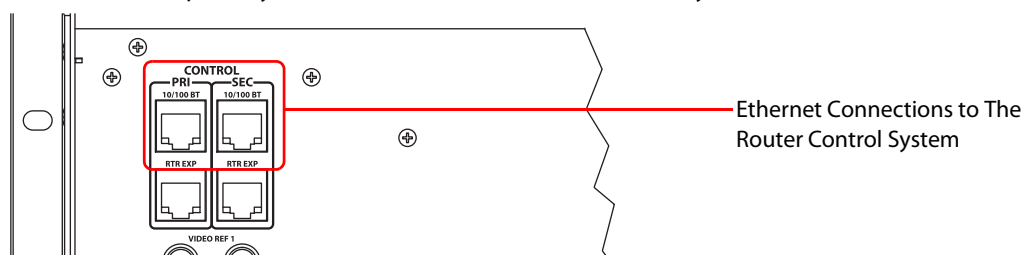

Fig. 4-5: Ethernet connections to the router control system (Rear View)
- 1 Face the rear of the router frame. The Ethernet connections are at the top of the RJ-45 connector group, as shown in Figure 4-5. The Ethernet control connections are labeled **PRI** and **SEC**, one for the primary control card and one for the secondary control card.